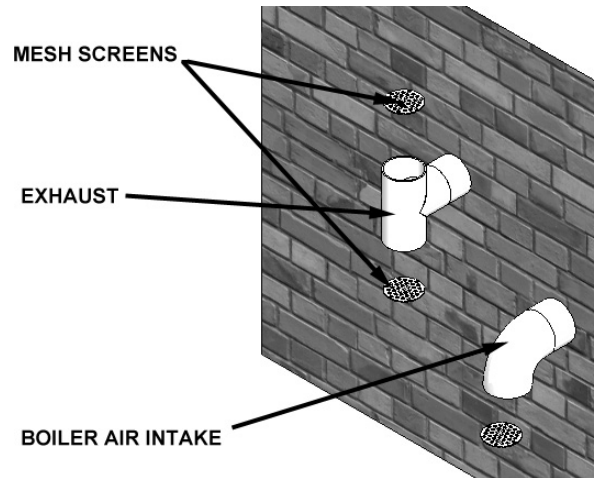
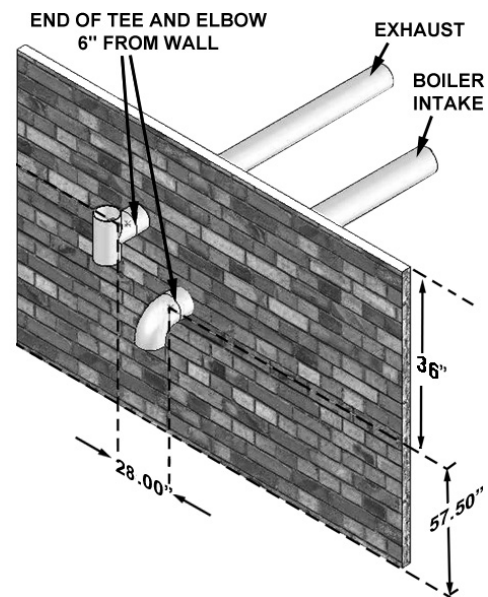

FIGURE 32. AIR/VENT TERMINATION - HORIZONTAL
FIGURE 33. HORIZONTAL CLEARANCES - AIR/VENT TERMINATION
3. The air piping must terminate in a down-turned elbow, using a mesh screen. This setup will avoid recirculation of flue products into the combustion air stream. See Figure 32.
4. The vent piping must terminate with a Tee pointed upwards and away from the air inlet. See Figure 32.
5. Maintain clearances as shown in Figure 32 and Figure 33. Vent must terminate:
Air inlet must terminate at least 12 inches (305 mm) above grade or snow line; at least 12 inches (305 mm) below the vent termination; and the vent pipe must not extend more than 24 inches (610 mm) vertically outside the building as shown in Figure 32 and Figure 33.